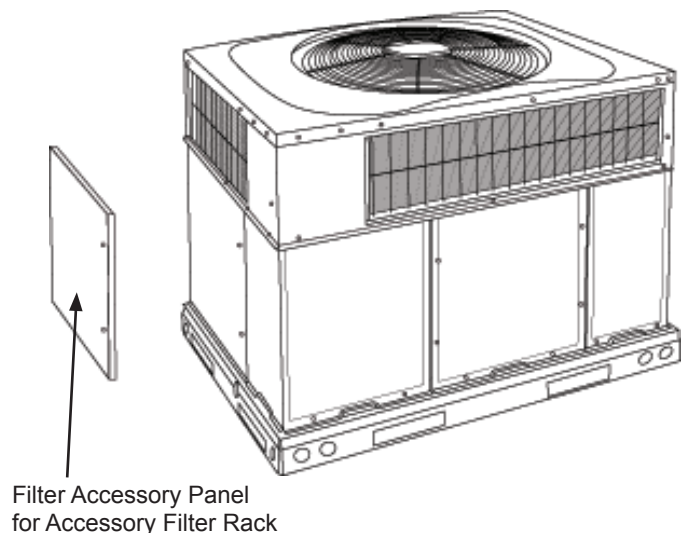

Fig. 1 - Filter Access Panel for Accessory Filter Rack
1. Remove the filter access panel on the HVAC unit. (See Fig. 1.)